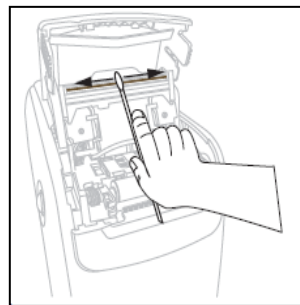

Figure 8
6. Refer to Figure 8. Using the swab from the Preventative Maintenance Kit or a swab dipped in the alcohol solution, wipe along the brown strip on the printhead assembly from end to end. Allow the solution to evaporate.